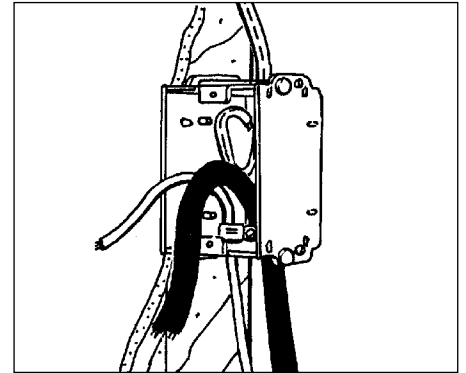

Figure 4
3. Trim excess length of supply branch circuit, cold lead and temperature sensor cables, as necessary, leaving about 6" projecting from the ECB, see Figure 4. Most heating cables are provided with identification labels attached to the end of the cold leads – ensure that these labels remain on the cold lead inside the ECB.